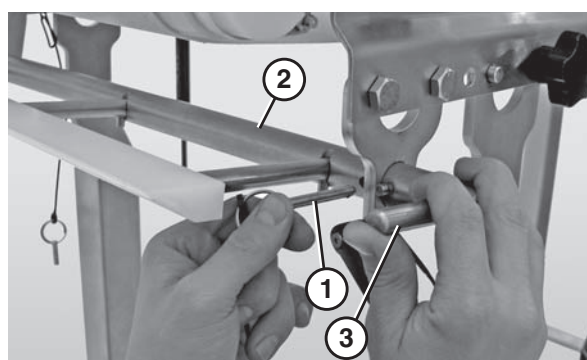

Figure 30
6. Insert the pin (Figure 30, item 1) to lock the scraper bar in place (Figure 30, item 2).
7. Adjust the scraper to the desired position using the scraper bar handle (Figure 30, item 3).